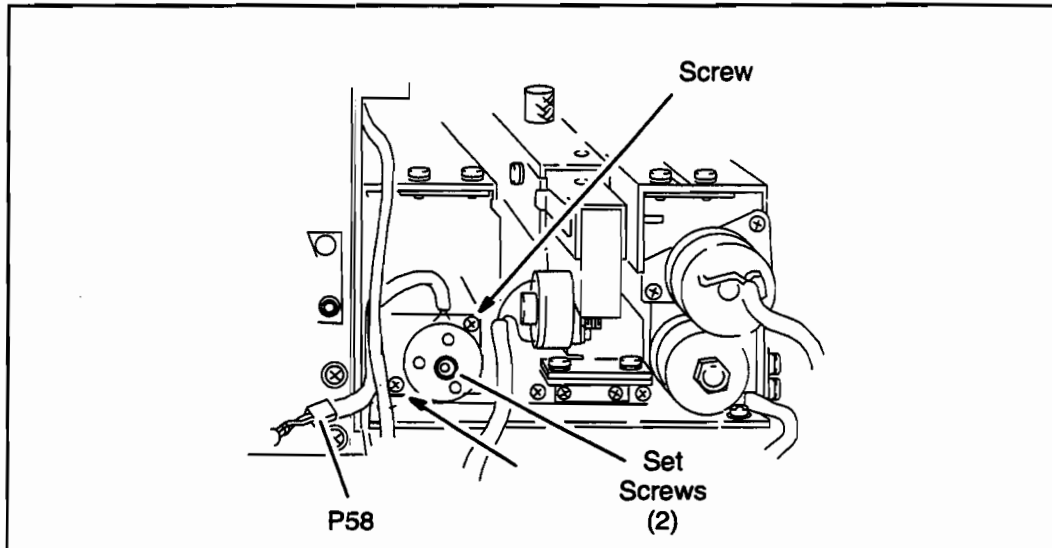

Figure 6-82. Feed-Roller Brake
3. Unplug the cutter brake at (P58). See Figure 6-82.
5. Remove the 2 screws securing the brake to the frame. See Figure 6-82.